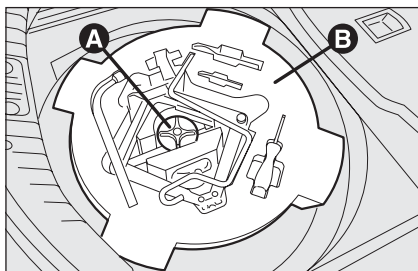

fig. 5
- for versions fitted with space-saver spare wheel, loosen fastener **A**-**fig. 5**, take the tool container **B**, and bring it near the wheel to be changed, then take out the space-saver spare wheel;